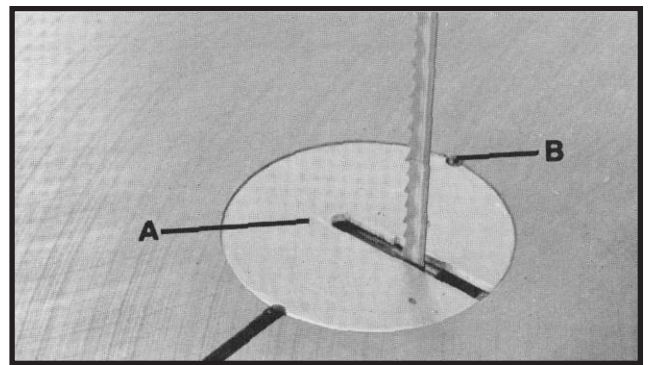
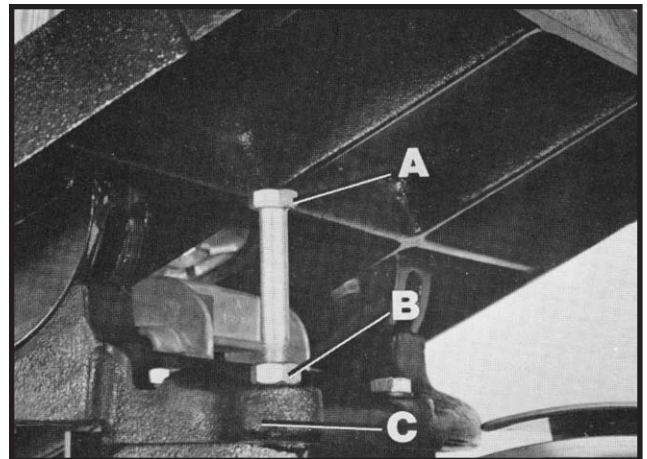

Fig. 14
Fig. 16
Place table insert (A) Fig. 14, in the hole provided in the table, making sure the pin (B) in the table engages one of the indents in the table insert.
The band saw is equipped with an adjustable table stop (A) Fig. 16, that allows the table to be set perfectly at 90 degrees with the blade.
Tilt the table to the left until the table stop (A) Fig. 16, contacts the bottom of the table. Place a square on the table and against the blade as shown in Fig. 14, and check to see if the blade is 90 degrees to the table surface. If an adjustment is necessary, proceed as follows:
2. Turn adjustment nut (B) Fig. 16, right or left as necessary to raise or lower table stop (A). **IMPORTANT:** Certain models of band saws will have an additional locknut assembled to the end of the table stop (A) Fig. 16, directly under casting (C). Loosen locknut and turn adjustment nut (B) right or left as needed to raise or lower the table stop (A). Tighten locknut after adjustment is made.
4. It is necessary to remove the adjustable table stop (A) Fig. 16, when tilting the table to the left.